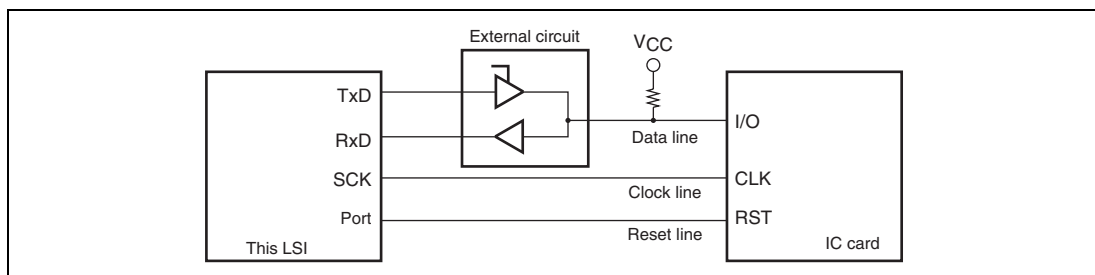

Figure 13.21 Example of Pin Connections for Smart Card Interface
Figure 13.21 shows an example of connection with the smart card. In communication with an IC card, as both transmission and reception are carried out on a single data transmission line, but the TxD pin is always fixed to output. Note that the following controls are needed to avoid signal collision: (1) control of data directions between TXD and I/O in the external circuit and (2) setting of the TXD pin to an input port except in transmission. Similarly, since the RxD pin is always fixed to input, connect a pull-up resistor to avoid the open state.